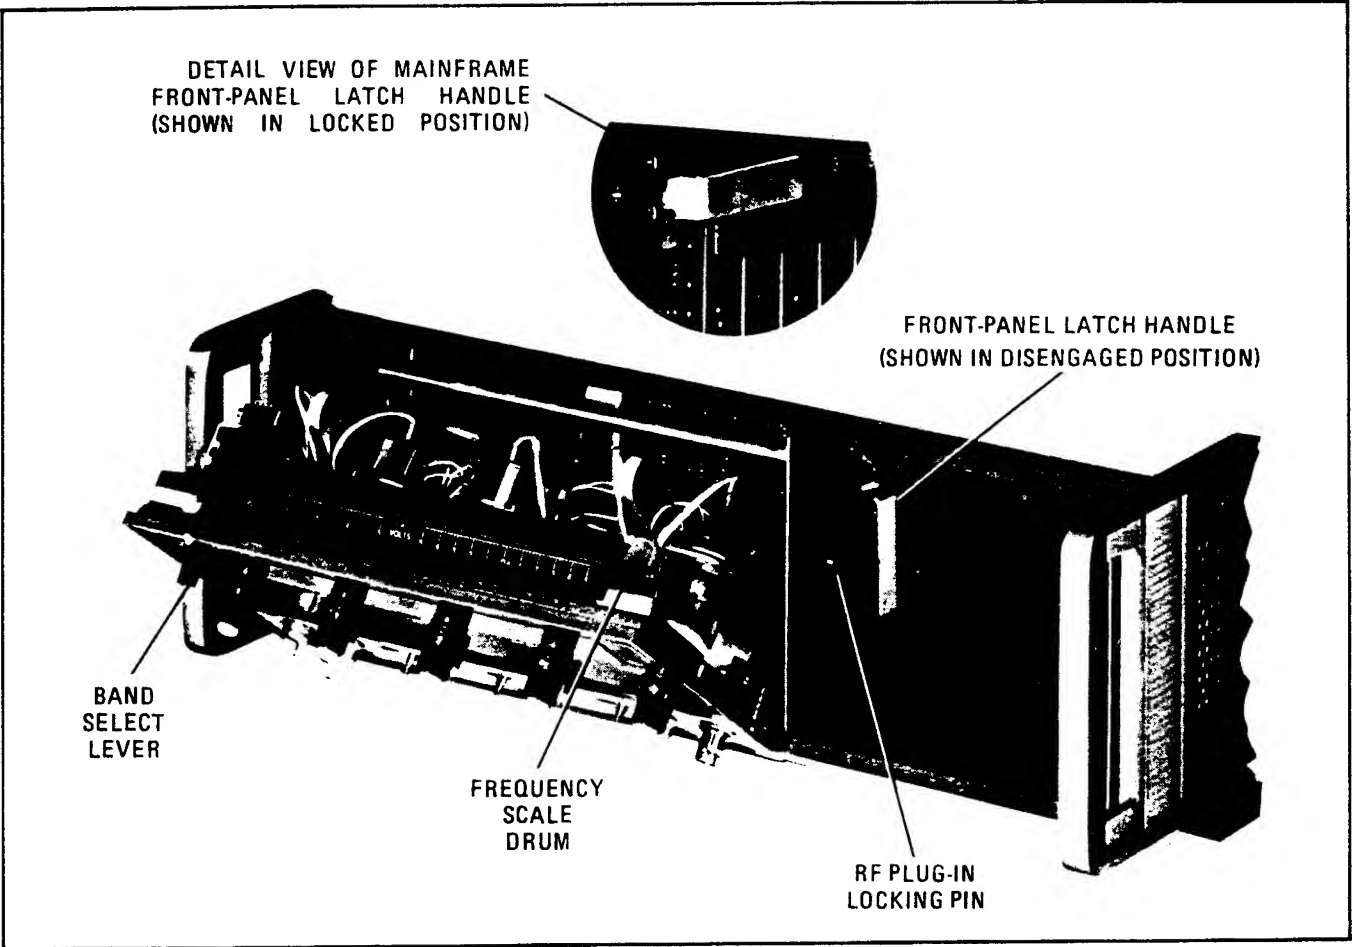

Figure 2-4. Location of Mainframe Parts Pertinent to Frequency Scale and RF Plug-in Installation
- a. Disengage mainframe front-panel latch handle, shown in Figure 2-4, by pushing downward on handle while pushing inward lightly on top of front panel.
- c. Depress mainframe front-panel BAND select lever, shown in Figure 2-4, to rotate frequency scale drum until desired scale position is accessible.
- f. Return front panel to upright (closed) position, and, while pushing inward lightly on top of front panel, re-engage front-panel latch handle by pushing it upward to lock position as shown in Figure 2-4, exploded view.